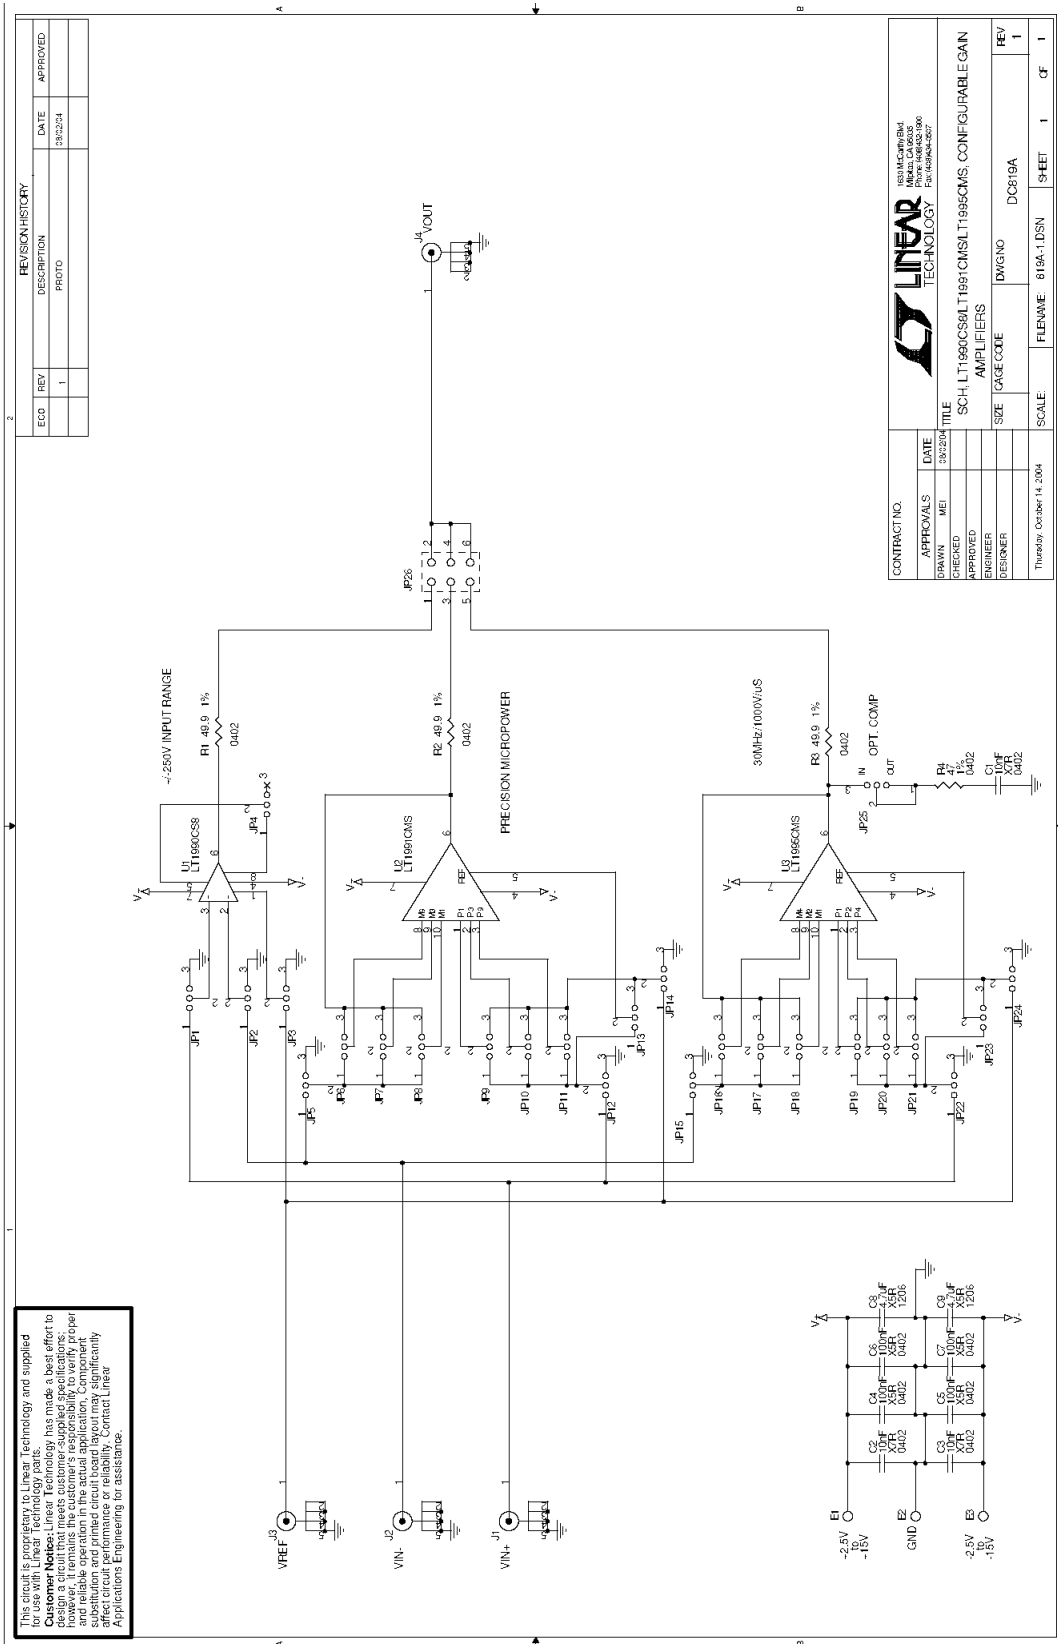

Figure 1. DC819 Electrical Schematic Diagram
This demo circuit can actually be considered as three circuits in one. As can be seen from the electrical schematic in Figure 1, jumpers define which devices are coupled to the I/O connections and what specific configuration the amplifiers take on. All three parts are powered from a common split-supply bus, so the unused devices are usually strapped so their inputs are grounded to avoid unpredictable behavior. Each amplifier output includes a 50Ω series resistor to decouple instrument cable capacitance from the part, assuring stable behavior during evaluation. The single BNC output connector (VOUT, J4) is tied to the desired evaluation part by configuration of JP26. BNC input connectors are provided for a non-inverting input (VIN+, J1), an inverting input (VIN-, J2), and a reference voltage input (VREF, J3).
1. Configure the jumper field of one evaluation device to create a desired test circuit. Refer to Figure 1 and the device datasheet to determine the appropriate topology to employ.